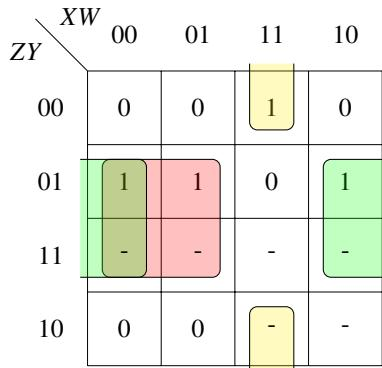

Fig. 4.7: K-map for C with don't cares
4. The revised K-map for C is available in Fig 4.7. Show that